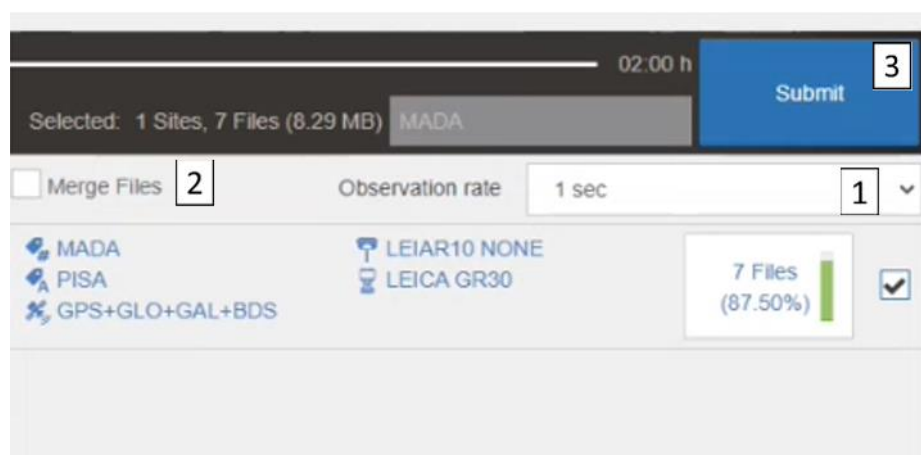

Fig. 99 – Sampling output of Rinx data
4. Define the **sampling frequency** (1 of Fig. 99) and flag the "**Merge Files**" options (2 of Fig. 99). Complete the process by pressing "**Submit**" button (3 of Fig. 99),